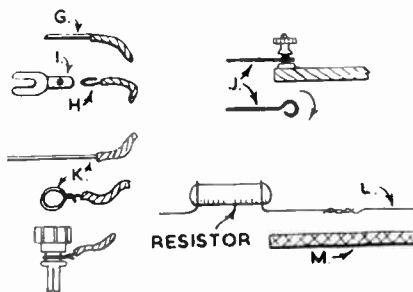

Fig. 3—Making proper connections
Good joints throughout are essential in any receiver. To fix spade-ends for accumulator connections, bare about $\frac{1}{16}$ in. of flex, as shown at (G) in Fig. 3. Then twist tightly and double back, insert in the spade, and tighten up the small screw (I). The doubled end (H) should be held firmly, or crackles, etc., may arise.